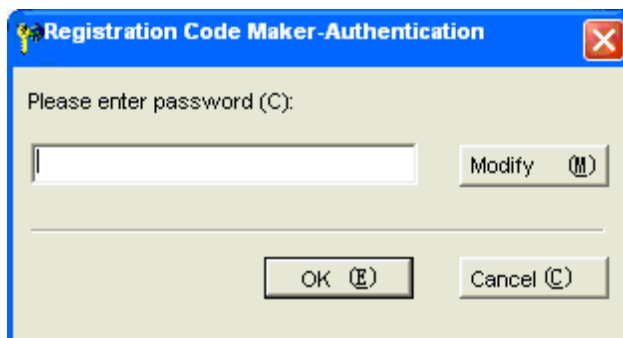
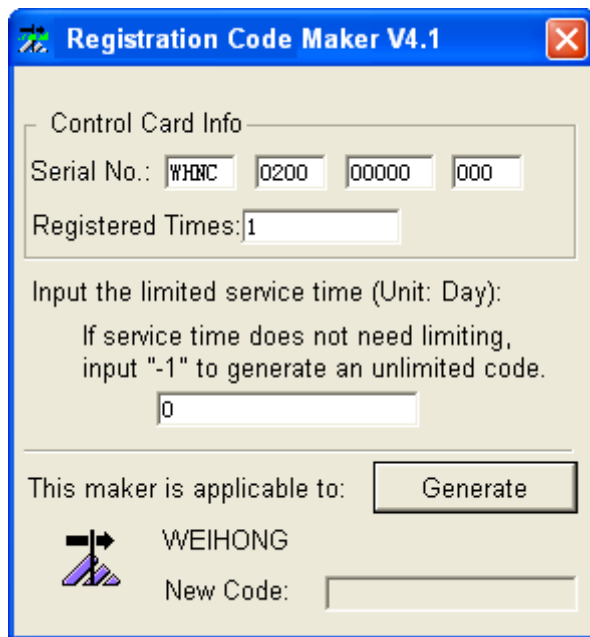

Fig. 3-47 Registration code maker-1
Fig. 3-48 Registration code maker-2
- 1) Double click the registration code maker “GetRegCode.exe”, and then enter the password “ncstudio” (revisable) in the dialog box as shown in Fig. 3-47. Then press “OK”, input control card serial number and limited service time, and then click “Generate” to generate the new code displayed at the lower part, as shown in Fig. 3-48. If service time does not need limiting, input “-1” in the “limited time” bar to generate an unlimited code.